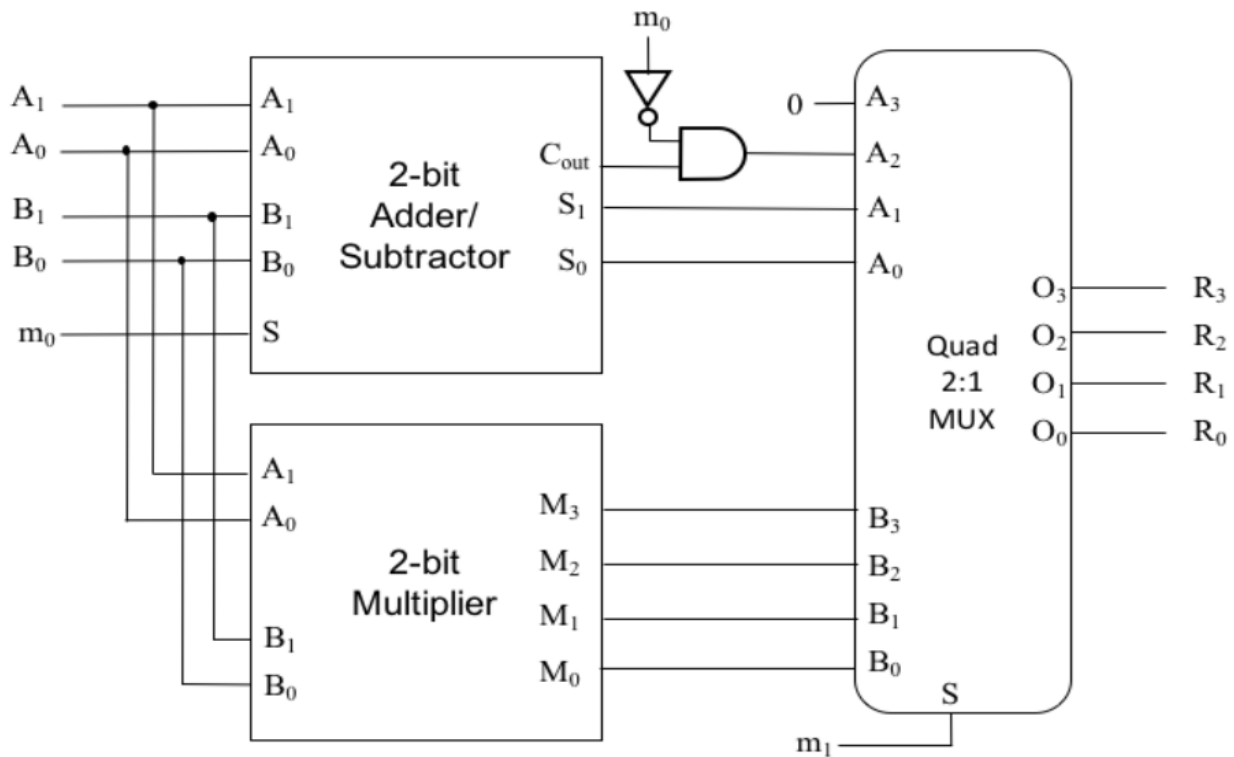

Figure 1: ALU Diagram
The goal of this experiment is to design a simple 2-bit ALU combinational circuit that performs three **unsigned** operations: addition, subtraction and multiplication. As shown in Figure 1, the ALU circuit has two 2-bit unsigned numbers A {A₁A₀} and B {B₁B₀} as inputs and a 4-bit unsigned number R {R₃R₂R₁R₀} as an output. The ALU circuit also has 2-bit control signal m {m₁m₀} that is used to choose the desired ALU operation as shown in Table 1.
- a) Inside the **ALU.v** file, write a **structural** Verilog code to implement the full ALU circuit module given in Figure 1.